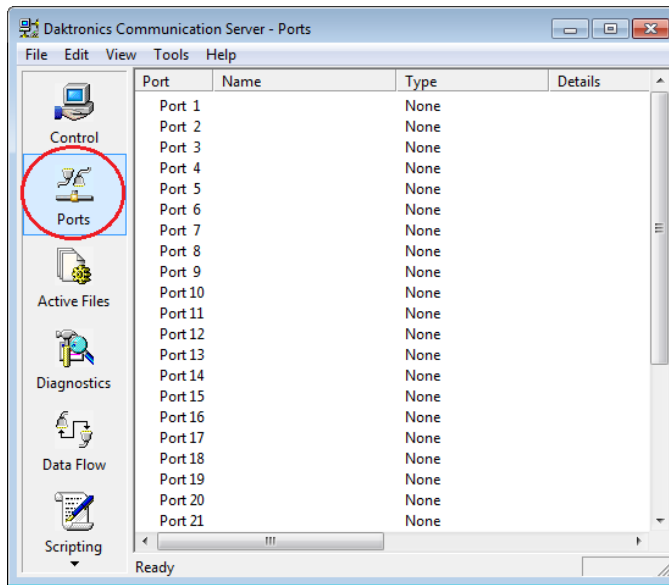

Figure 50: DCS Ports
5. Click the **Ports** button on the left side of the application window (Figure 50).
- Click the **Active Files** button on the left side of the application window (**Figure 50**).